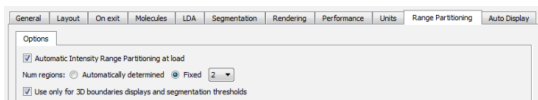

Figure 3.23: Amira Preferences panel
- Select the entry Preferences in the Amira Edit menu, and make sure that Intensity Range Partitioning options are set according to the defaults shown on Figure 3.23: automatic guess of two material densities in the loaded image data (i.e., void and solid ranges/regions in the intensities scale).